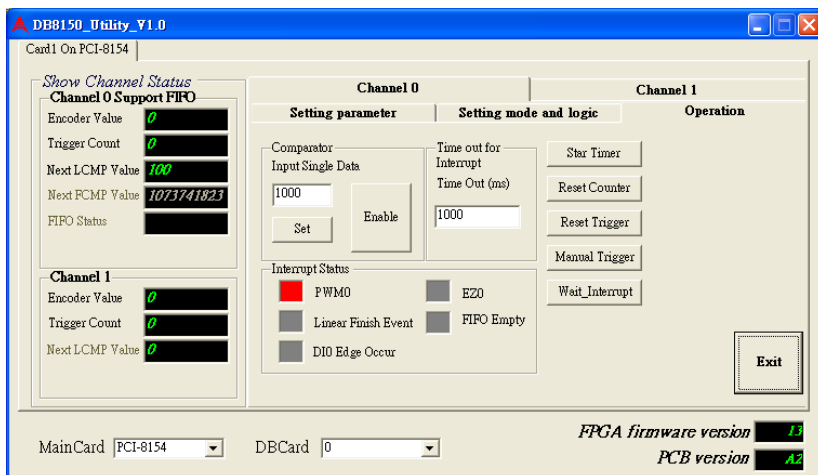

Figure 5-5: Example of Interrupt Operation
6. Click the StartTimer button to start. If any interrupt source was chosen, the items of Time out for Interrupt and Interrupt Status would be enabled. If the PWM0 interrupt source is chosen, the color of PWM0 in Interrupt Status item would change (color red: time out, color green: receive the interrupt signal within time out, color yellow: still waiting). See Figure 5-5.